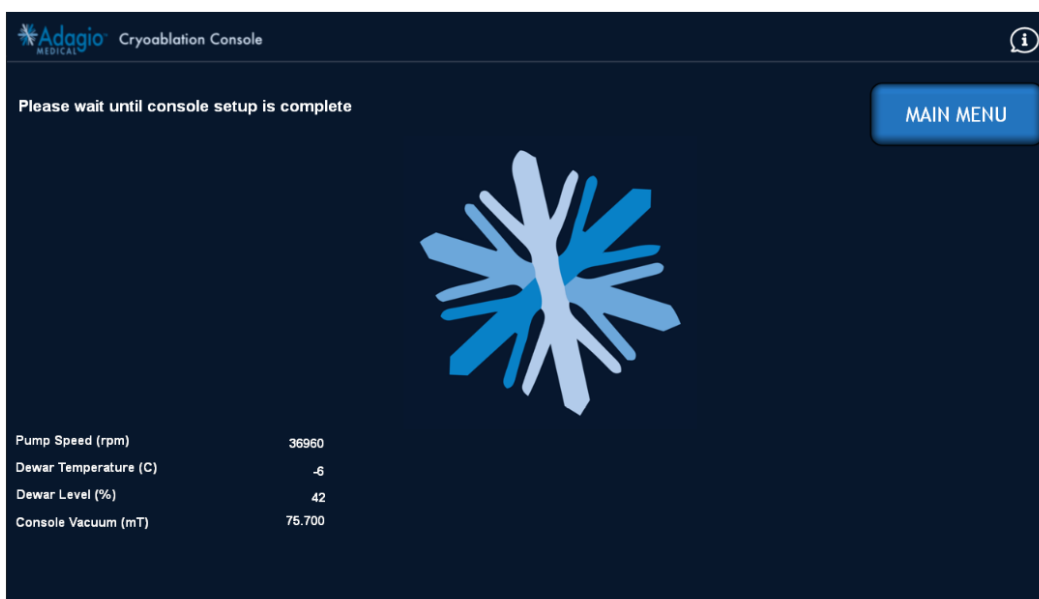

Figure 71 – Prepare Console Test Screen Image
4. The console will automatically run the Prepare Console (Vacuum) test as shown in Figure 71.